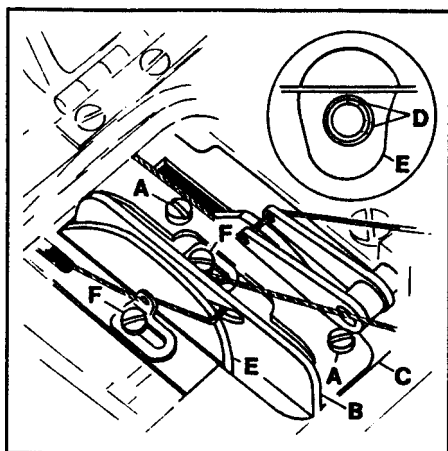

FIG. 34
Loosen screws (A, Fig. 34) and position looper thread cast-off (B) flush with the right end of cast-off support plate (C). Tighten screws (A). Loosen screws (D, Fig. 34 inset) and time take-up (E) so the thread will cast-off when the needle bar has descended  $7/64$ " (2.8mm) from its highest position. When thread eyelets (F) are moved further to the left the amount of thread pull-off will increase.